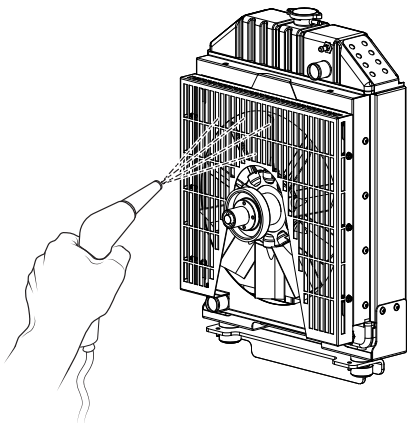

Figure 54. Radiator Cleaning
1. Blow off dirt and dust from the radiator and fins with 28 psi (193 kPa) or less of compressed air (Figure 54). Be careful to not damage the fins with the compressed air.